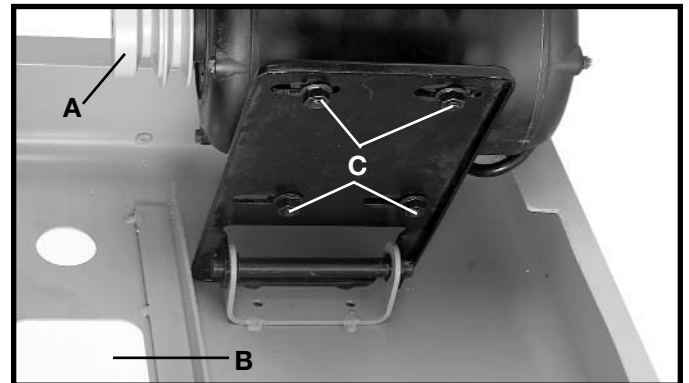

Fig. 6
5. Align the four holes on the motor bracket with the four holes (C) Fig. 6, on the motor mounting plate.
**NOTE: MAKE SURE THAT THE MOTOR PULLEY (A) FIG. 6, IS MOUNTED ON THE SIDE WITH THE BELT OPENING HOLE (B).**